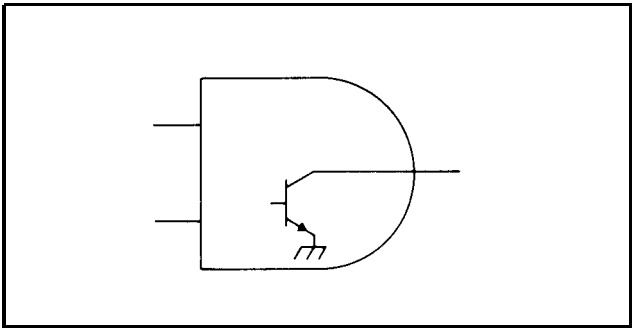

Figure 8-3. Open Collector Output Stage (AND Gate)
**8-41. Introduction.** The binary circuits and symbols used in this manual are as shown in Figure 8-3. This instrument uses three different families of logic circuits: TTL, ECL, and EECL. Most of the logic devices used in this instrument are TTL; there are notes on the Service Sheets that indicate what families the non-TTL devices belong to. Table 8-2 indicates the voltage levels that are associated with each family. The table also shows the effect that an open and a ground has on each family.